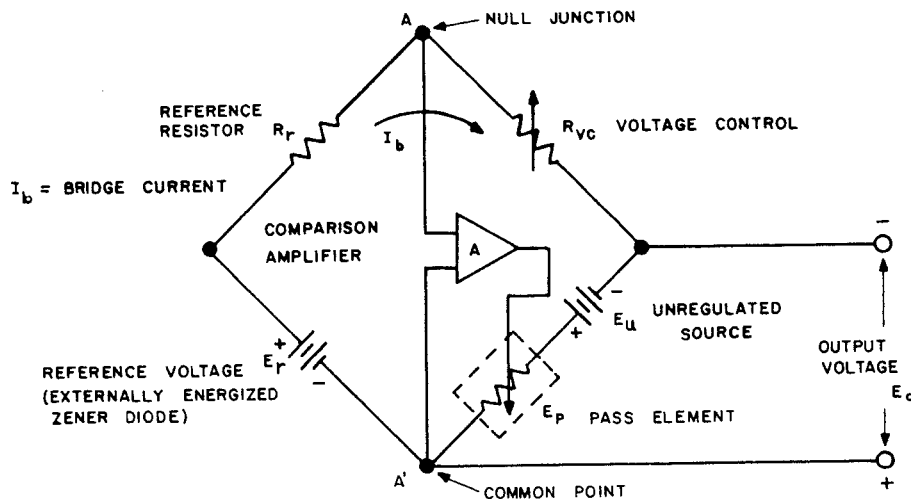

FIG. 3-4 KEPKO POWER SUPPLY AND COMPARISON BRIDGE CIRCUIT.
3-8 GENERAL. A few general remarks may be in order to familiarize the user of this equipment with the terminology and basic equations pertaining to remote programming of the Kepco PAT Power Supplies. Electrically, the power supply consists of the unregulated d-c source (E_u), the pass element (E_p), the d-c error amplifier (A), and a comparison circuit which resembles a 4-arm electrical bridge. (Refer to FIG. 3-4.) The elements of the bridge are arranged to produce a virtual zero at the amplifier input when the bridge circuit is at balance ($V_{AA'} = 0$). Any tendency for the output voltage to change in relation to the reference voltage (E_r) creates an error signal which, by means of negative feedback and the amplifier, tends to correct the output voltage towards restoration of bridge balance.